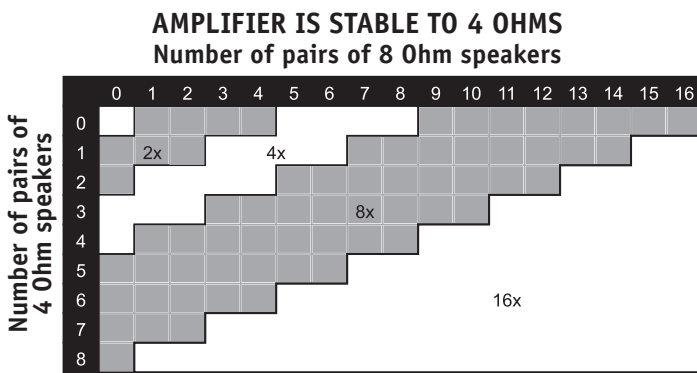
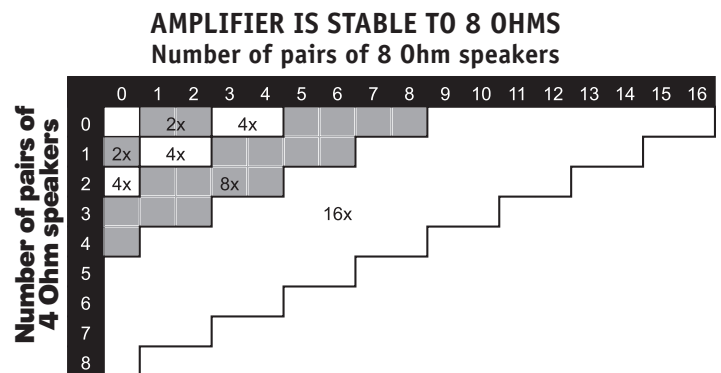

Figure 2
Figure 3
- 3.) Determine the correct impedance match jumper position from the charts shown below. See Figure 2 if your amplifier can handle a 4 Ohm speaker load. See Figure 3 if your amplifier can handle an 8 Ohm speaker load.